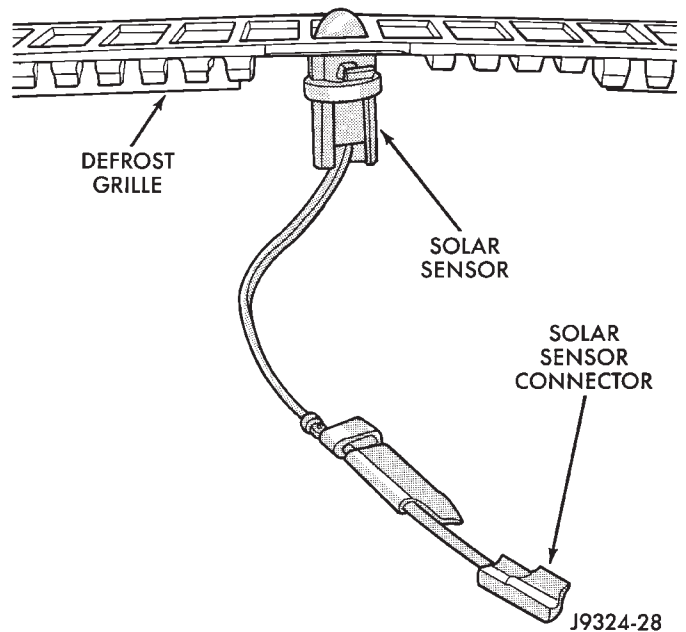

Fig. 29 Solar Sensor
- (1) Pop out the defrost grille (Fig. 29).
- (2) Remove the solar sensor from the defrost grille (Fig. 29).
- (3) Disconnect the solar sensor connector (Fig. 29).